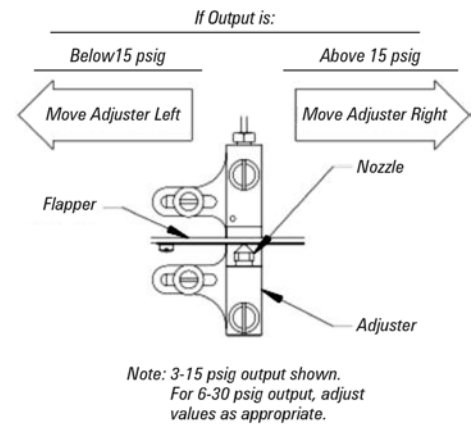

Figure 12 Transmitter Span Adjustment
8. Adjust the span by loosening one of the two adjusting screws and moving the calibration adjuster a small distance (Refer to Figure 12).
8. Adjust the span by loosening one of the two adjusting screws and move the CALIBRATION ADJUSTER a small distance (Refer to Figure 12).